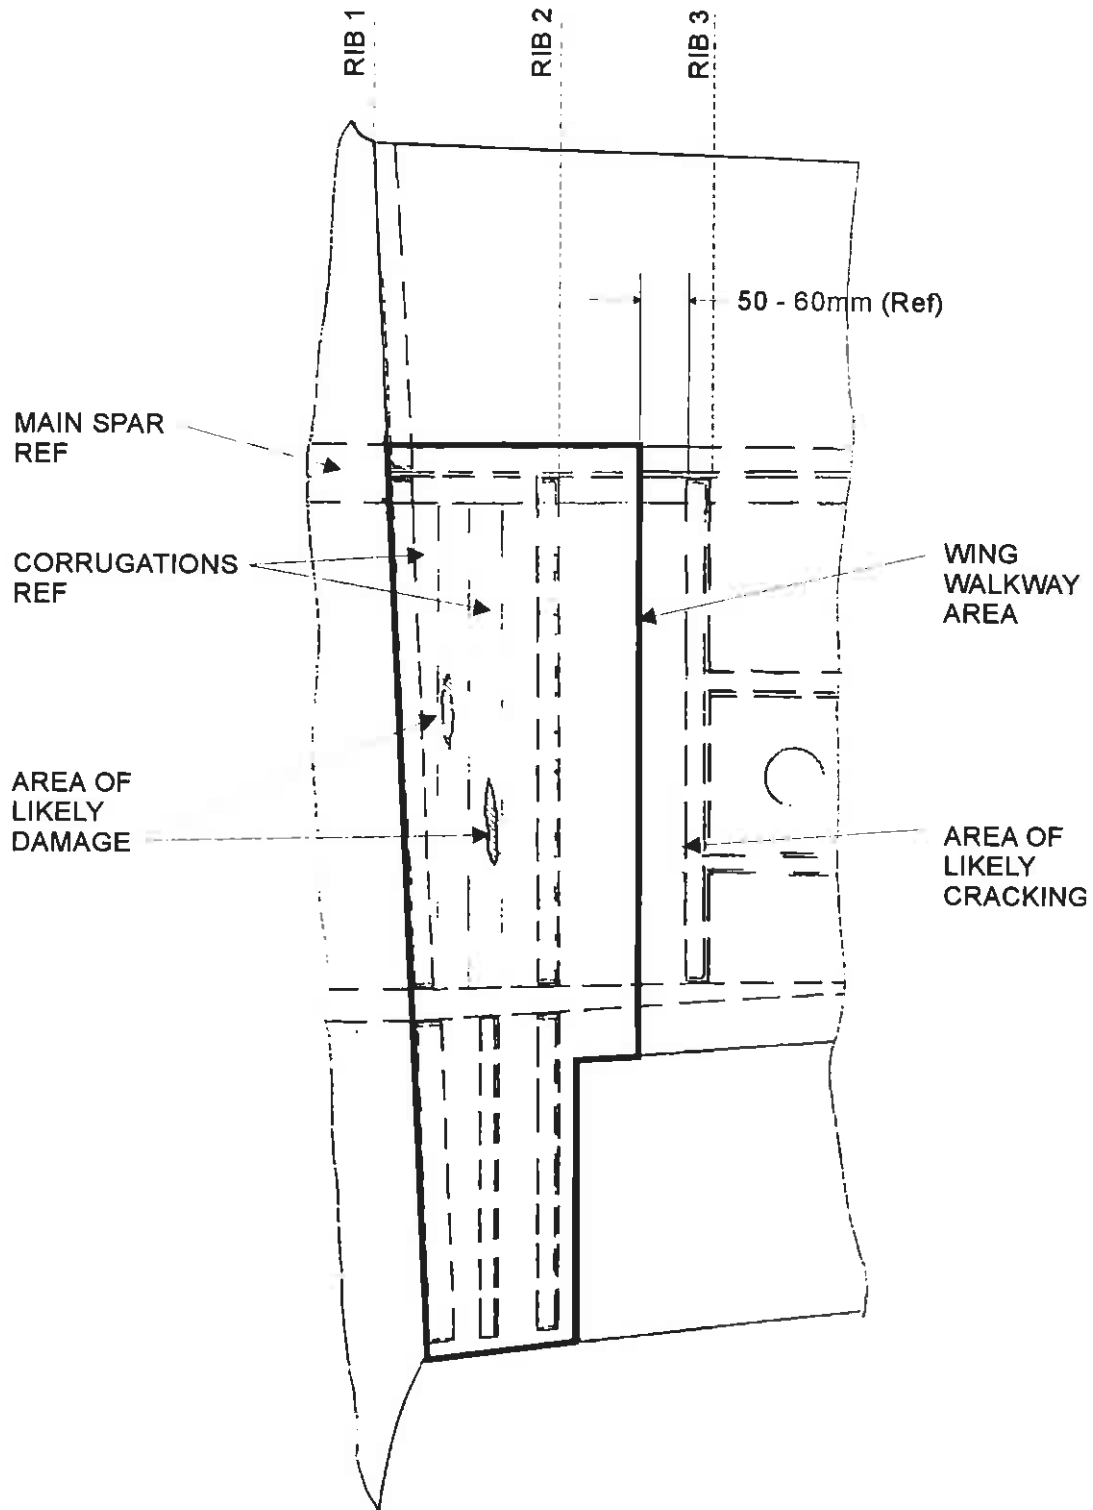

FIGURE 1 STBD (RH) DRN - PORT (LH) SIMILAR
Two cases have been reported of delamination in the skin and corrugations in the area of the wing walkway. Reference Figure 1.
1. At next 150 (or 100 for US registered aircraft) flying hour check, reference Figure 1: